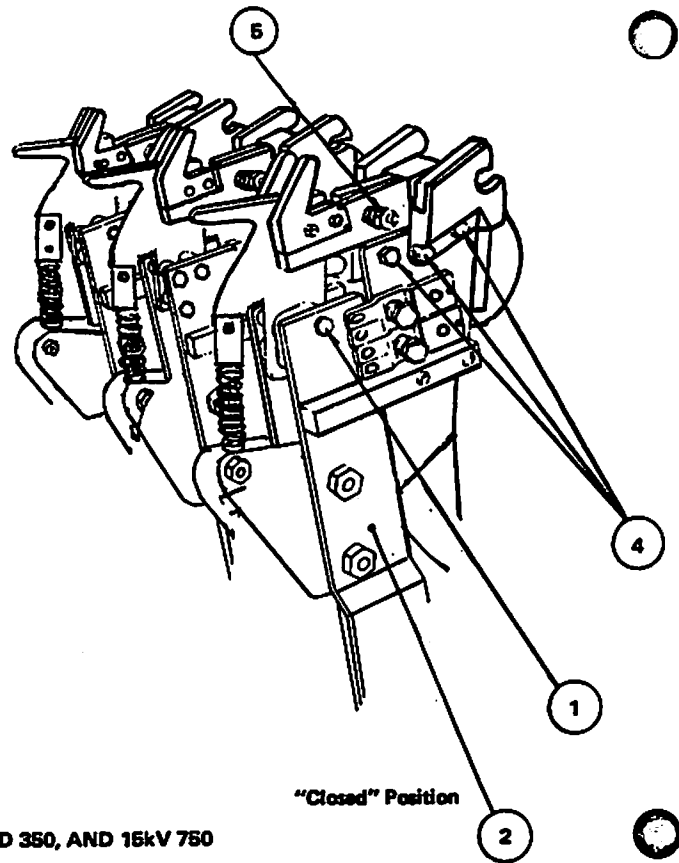

Figure 4b
- (c) Remove stationary arcing contact springs (5) (Fig. 4b and 4c) by removing adjusting nuts and stud. Remove upper shunt screw. Remove arcing contact assembly, remount shunt onto new arcing contacts and install in reverse procedure.